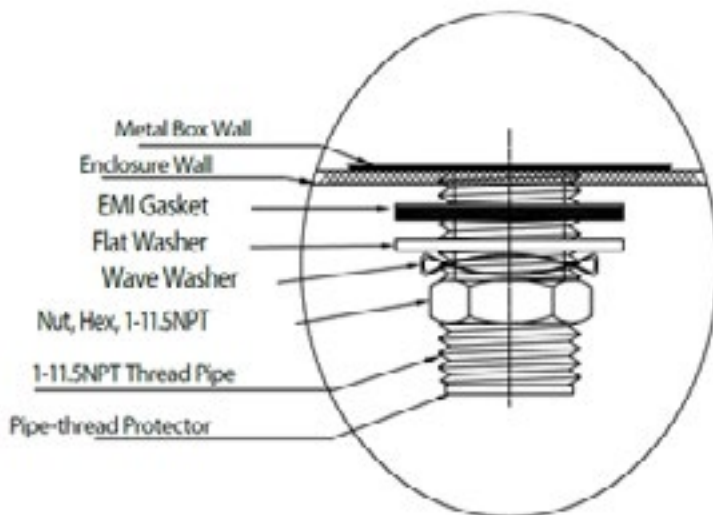

Figure 1: Filter Mounting Detail
1. Mount the provided 30-amp DC line EMI filter directly to outer enclosure wall via rear NPT conduit pipe using all provided gasketing and hardware (1-5/16" diameter hole size). See Figure 1. The power supply and EMI filter should be installed as close together as possible.
1. Mount the Kenall MRIFD-1A dimming-line filter directly to outer enclosure wall via rear NPT conduit pipe using all provided gasketing and hardware (1-5/16" diameter hole size). See Figure 1 for details.